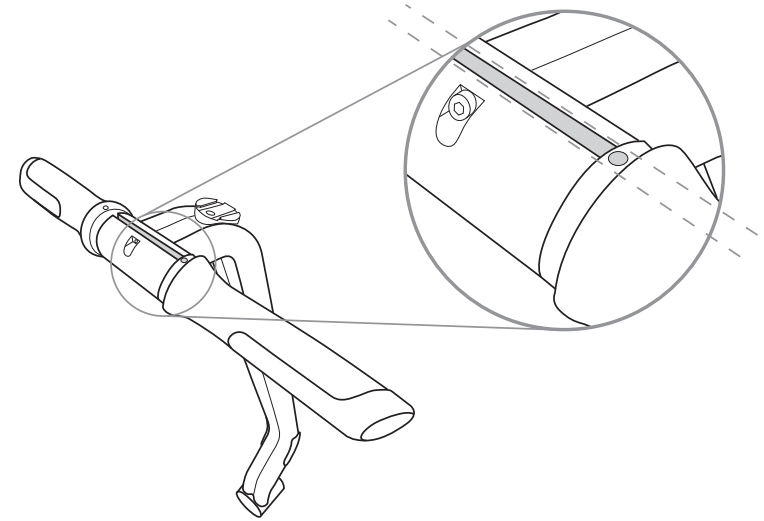

Figure 2. Secure Handlebar to the LeanSteer Frame
4. To re-attach, align the Handlebar in place against the LeanSteer Frame using the alignment guides. See Figure 2.